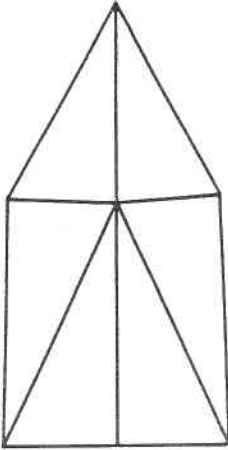

Fig. 6 - Slack
- 1 Set up the mast with all rigging slack (see Fig. 6).